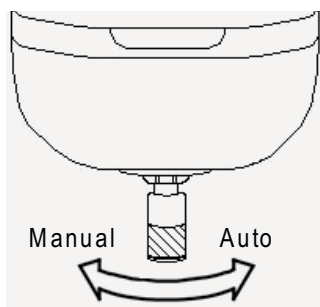
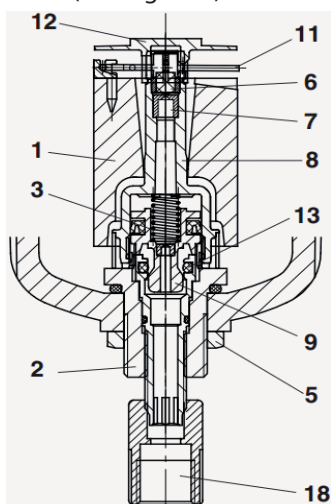

FIGURE 1
FIGURE 2
Turn the drain screw (18 in Figure 2 and direction shown in Figure 1):
Before first-time use, and after maintenance, the drain screw (18) should be turned clockwise as far as it will go to provide automatic operation (Figure 1).
Method of Operation (See Figure 2)